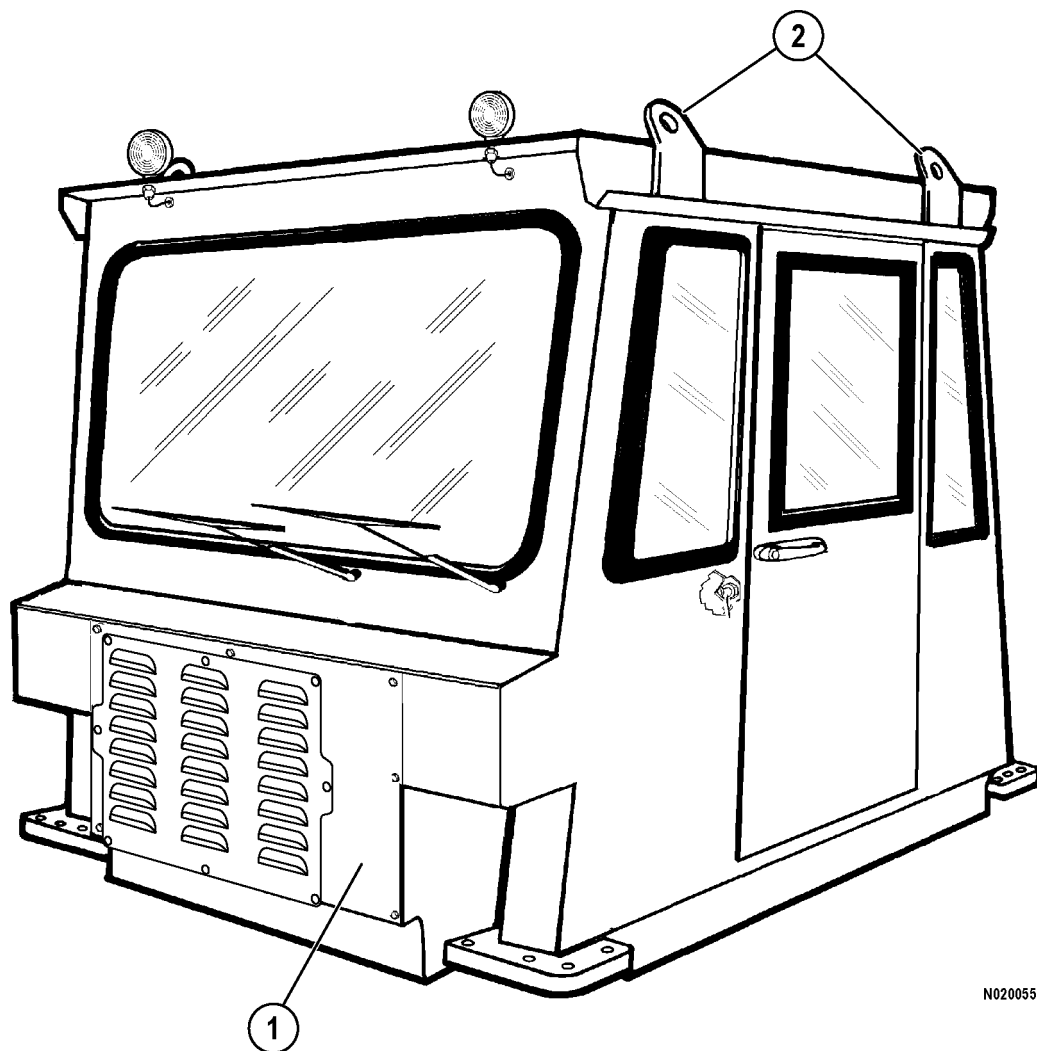

FIGURE 2-1. CAB ASSEMBLY (FRONT VIEW)
The truck cab is a fully insulated design incorporating an integral ROPS structure for maximum operator comfort and safety. All gauges, switches, and controls have been designed to simplify operation and are placed within easy reach of the operator. Servicing of cab and associated electrical systems is simplified by use of heavy duty connectors on the various wiring harnesses. Hydraulic components are located outside the cab interior and are accessed through cover (1, Figure 2-1) on the front of the cab.
10. Attach a lifting device to lifting eyes (2, Figure 2-1) provided on top of the cab.